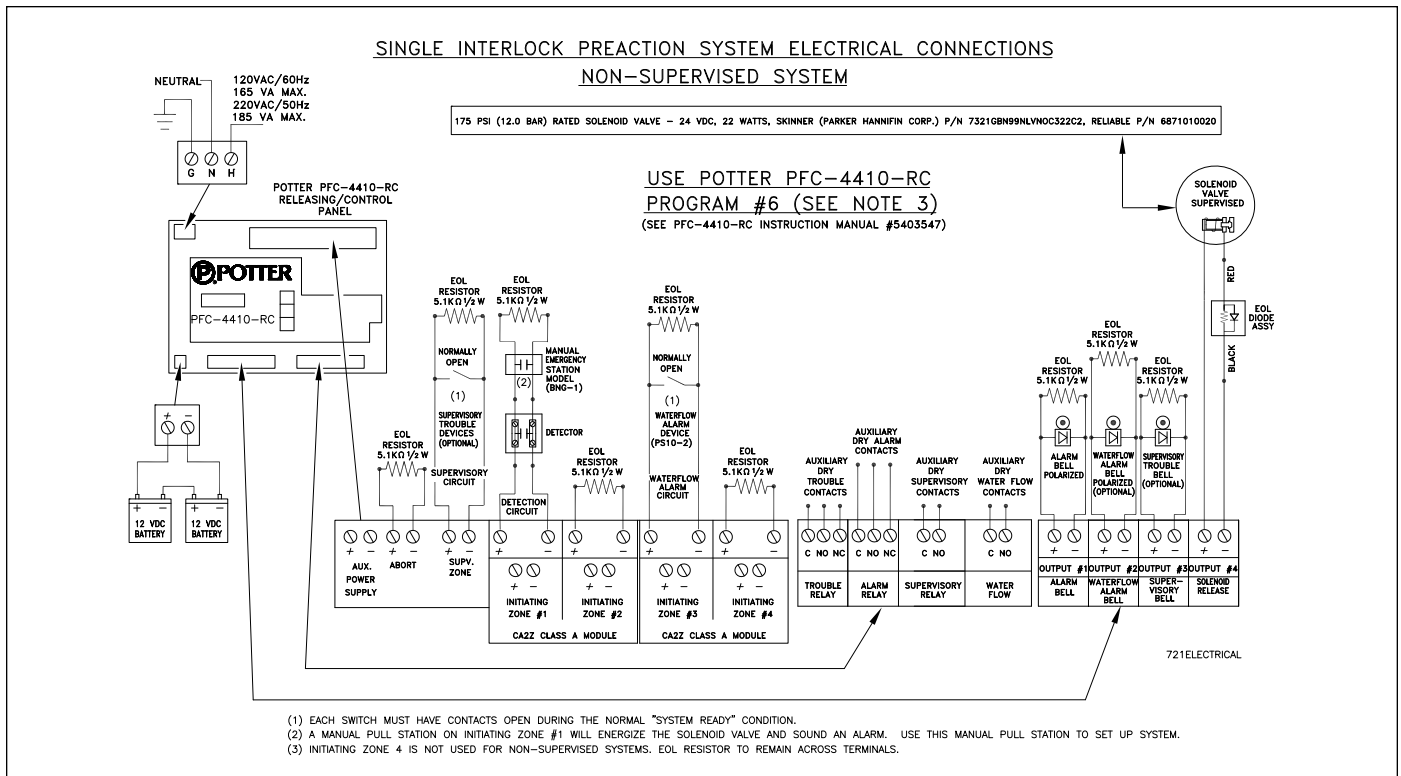

Figure 1
The solenoid valve is operated and supervised by the electric releasing control panel. Details on connecting the electrical portion of the system to a Notifier Potter PFC-4410-RC Releasing/Control Panel is indicated in Figure 1.
All releasing, alarm and detection devices in the Single Interlock System can be supervised by the Potter PFC-4410-RC Releasing/Control Panel. Typical connection of these devices is shown in Fig. 1.
2. Make all electrical connections in accordance with Fig. 1.